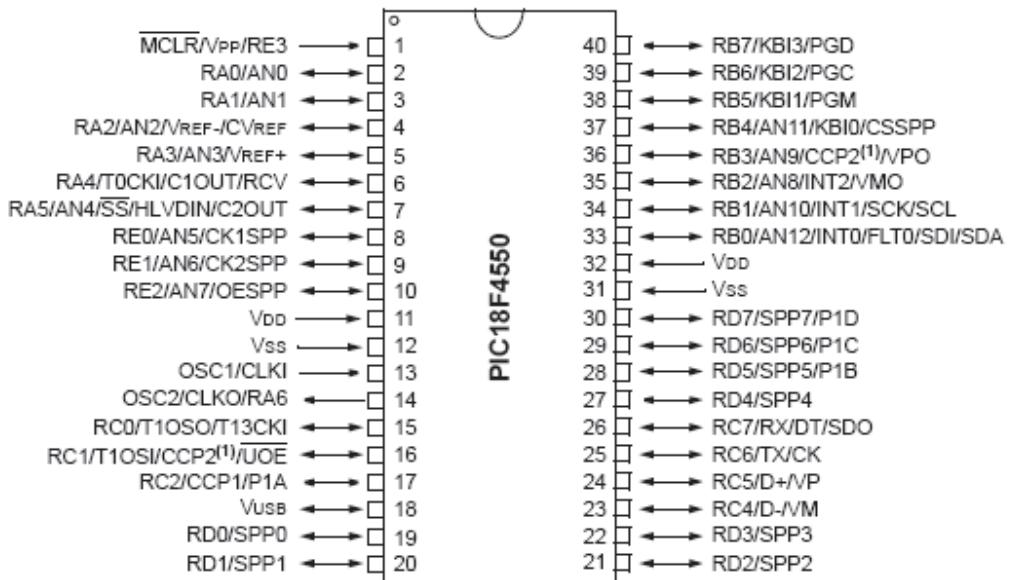

Figure 2.2 – PIC18F4550 pin diagram
2. Based on the PIC18F4550 pinout diagram in Figure 2.2 in the notes, answer the following questions